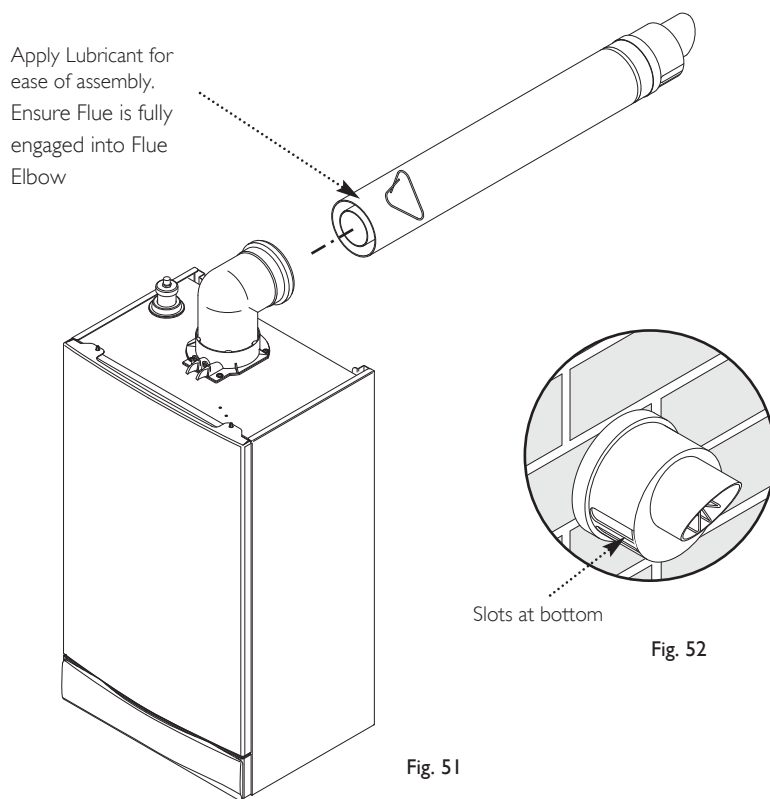

Fig. 51
7. Take the inner flue support bracket (if not already fitted) and engage it over the flue duct. This will centralise the flue and air ducts, and ease assembly (Fig. 51).
9. Draw the flue back through the wall and engage it in the elbow. It may be necessary to use soap solution or similar to ease assembly of the elbow adaptor and flue (Fig. 51).